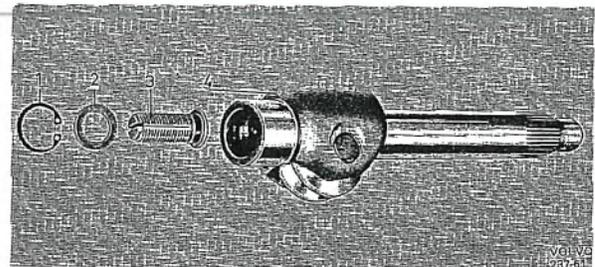

Fig. 6-46. Pitman arm shaft
5. Fit the adjusting screw, washer and circlip on the pitman arm shaft, see Fig. 6-46. The axial play for the adjusting screw should be as small as possible and should not exceed 0.05 mm (0.002"). The play can be reduced by replacing the washer (2) with a thicker one. However, the adjusting screw should be easy to turn after fitting.